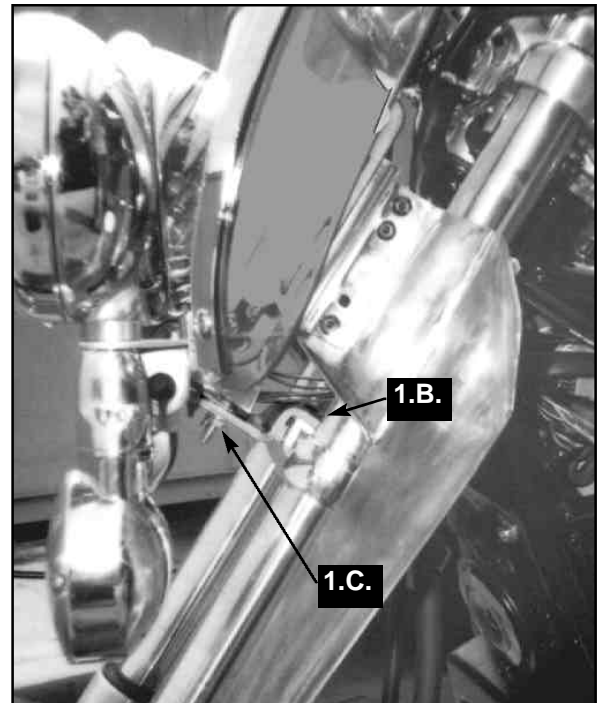

Figure 1.
- Mount the Light Bar Assembly (Figure 1.)